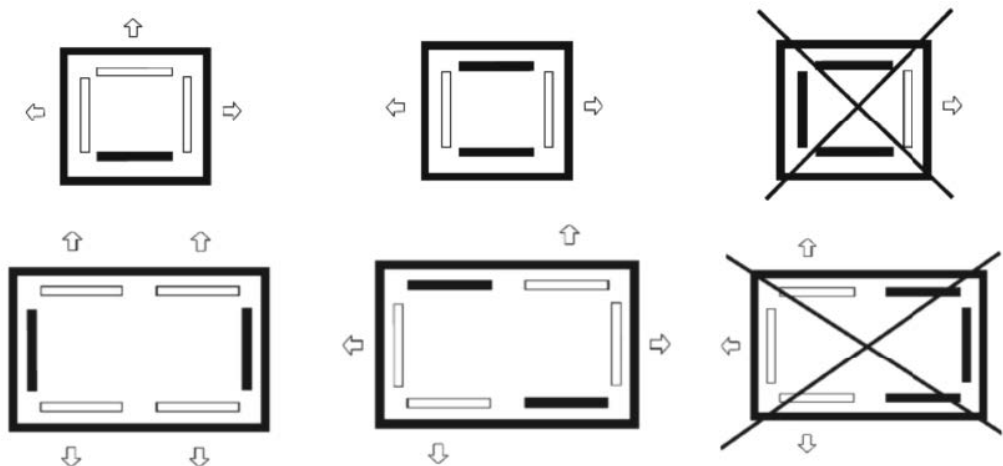

Figure 9: Blowing air outlets
- the unit must be installed in the room so that it allows free air circulation in the unit. The unit has four (sizes 20-80) or six (sizes 100-160) blowing outlets that contain air deflectors for directing the blowing air or for closing some of the outlets, if necessary. The maximum number of closed blowing outlets is shown in *Figure 9: Blowing air outlets.*